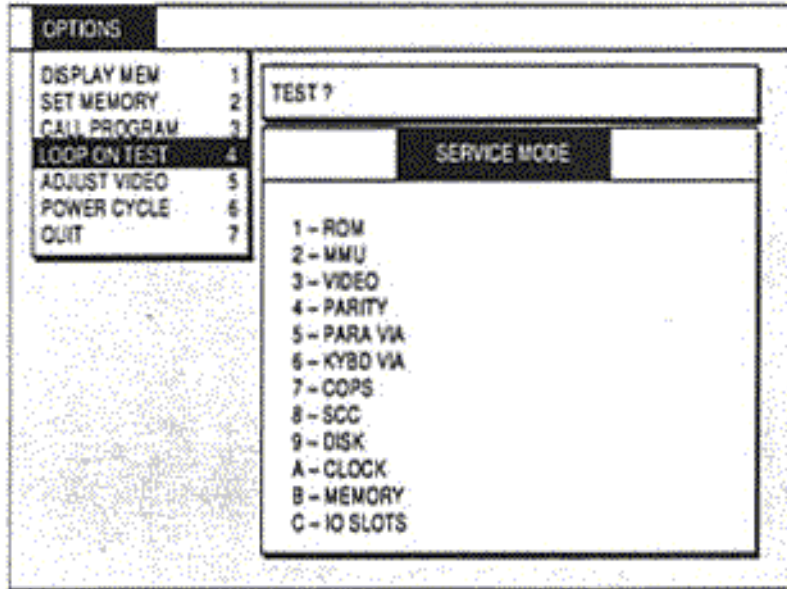

Figure 16
5. Hold down the Apple key and press the s key. S presumably stands for service. Case is irrelevant. Pressing S, or s, will engage the service mode as shown in Figure 16.